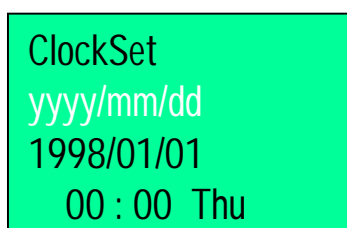

Fig. 2.25
- Press key 4 (OK) to access the corresponding menu.
- The screen in figure 2.25 shows the status of the time and date setting. There are three display modes for the date :
year/month/day ⇔ yyyy/mm/dd (figure 2.25)